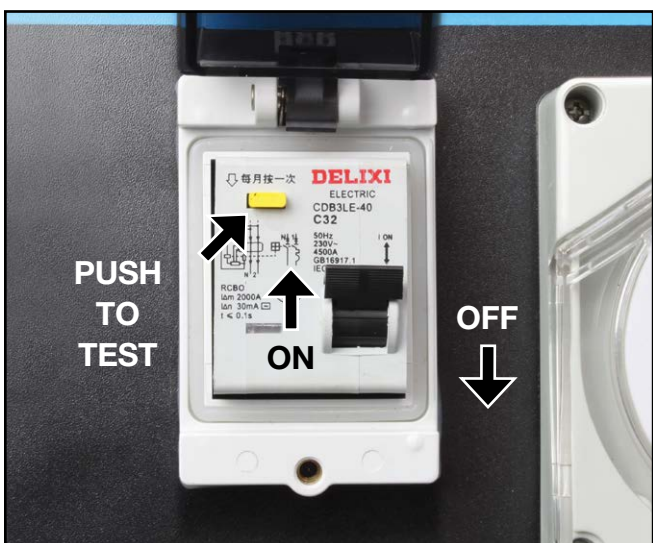

Figure 55 – RCD Safety Switch Controls
4. Check the RCD safety switch circuit breaker is in the upwards **ON** position (see *Figure 55*).